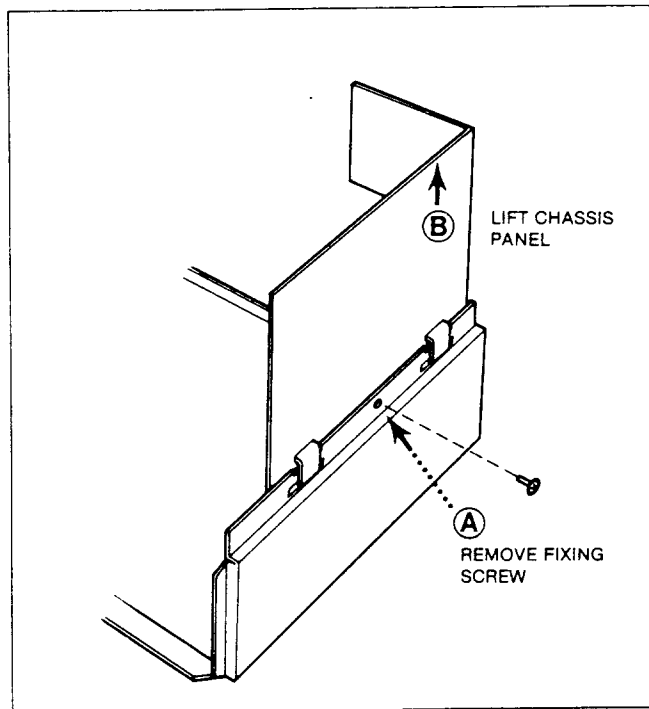

FIG R2 R SERIES FIXED POSITION
### *SERVICE ACCESS (Figure R2, R3)*
The side PCBs may be tilted to Service Access positions as shown in Figures R2, R3.
1. Remove the fixing screws (A) (fig R2).
2. Lift the panel (B) (Fig R2).